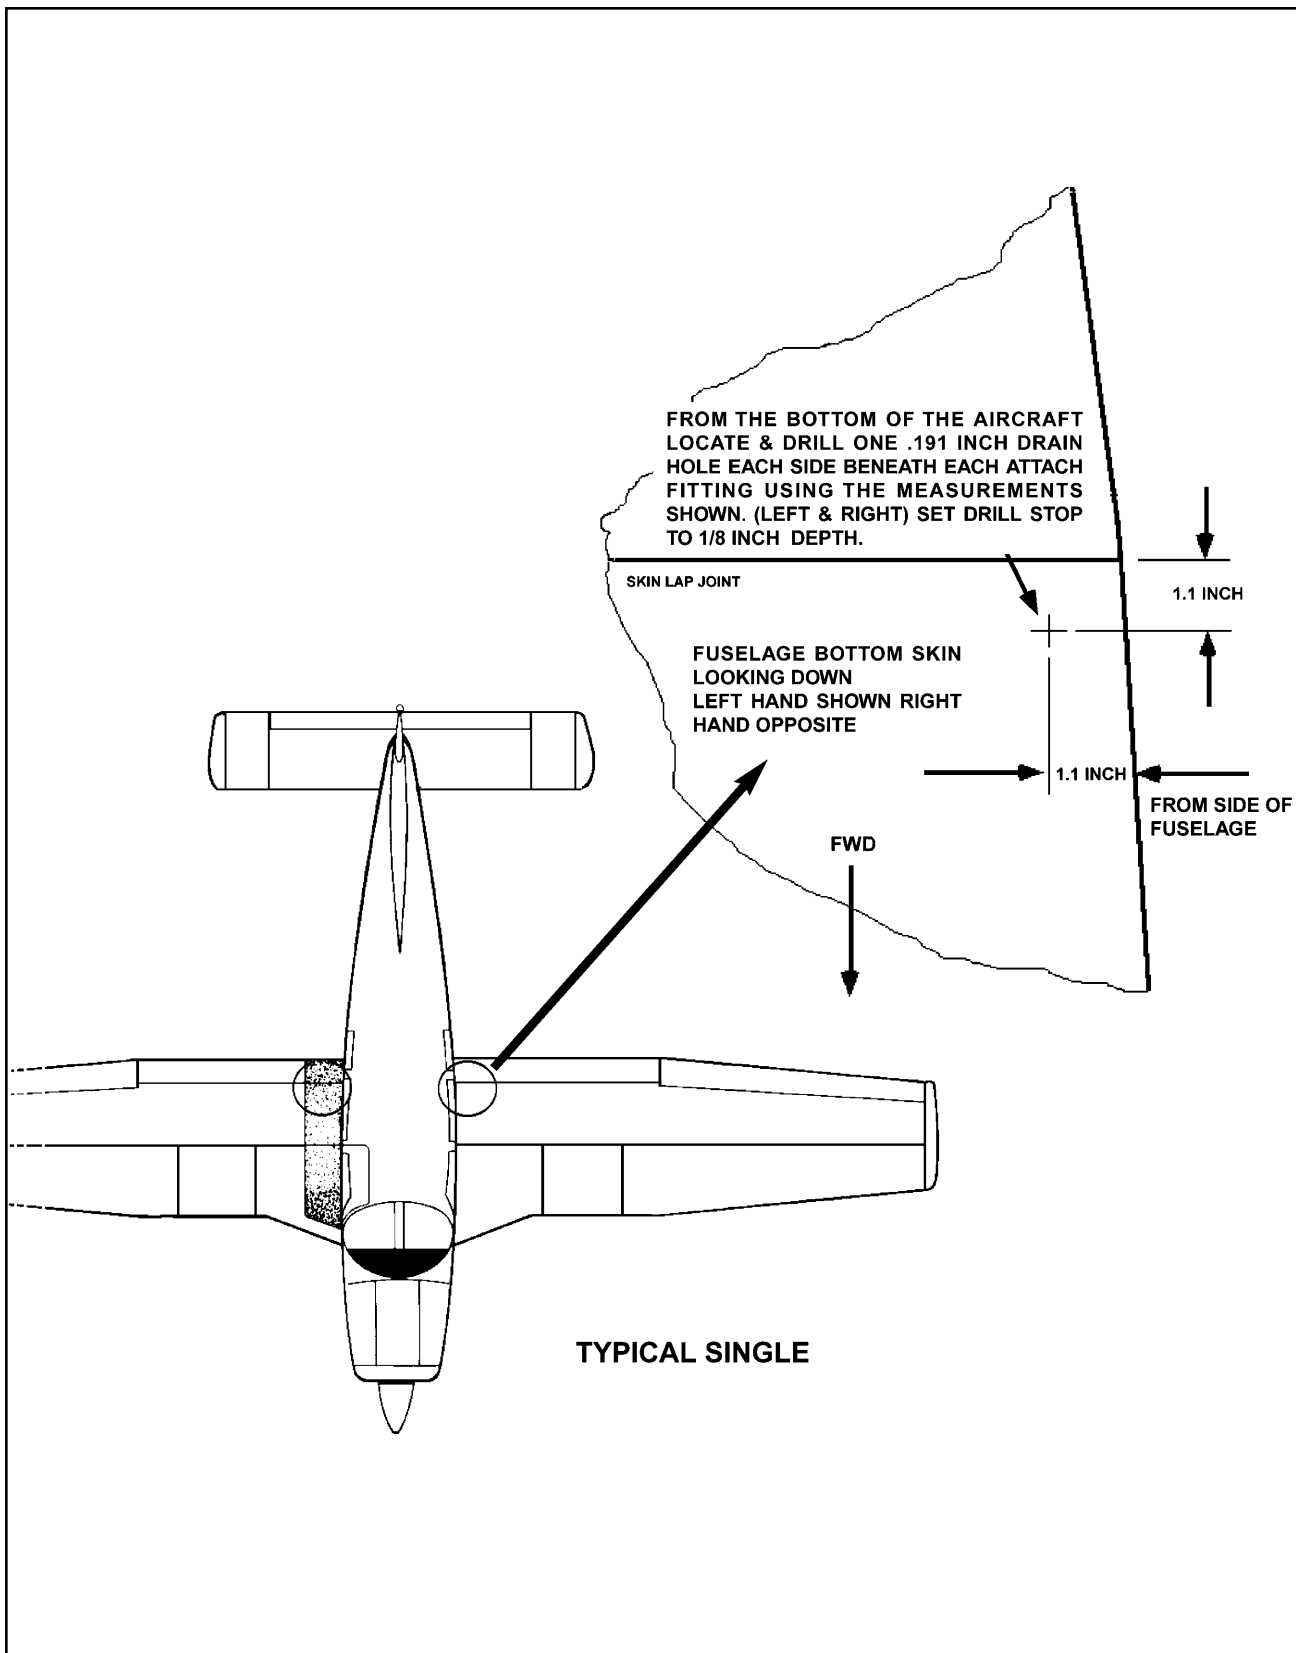

Figure 3-11. Drain Hole Installation
- b) If the insulation material has not been wet, or if new material is being installed, ensure a six (6) inch clearance in the insulation has been cut out in all directions around each attach fitting.
**NOTE:** If there are no drain holes, install them as described in Figure 3-11.